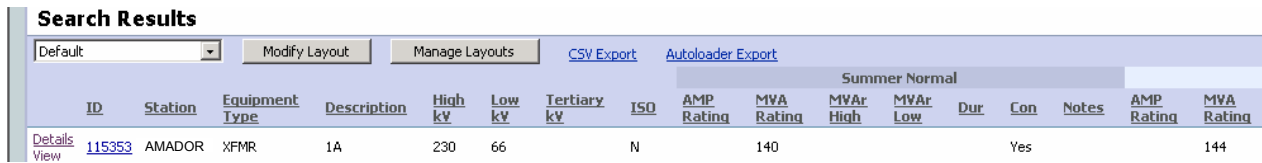

Figure 5. Search Results Screen
- **Click** the Run Search button and the screen in Figure 5 loads.
- **Press** the Run Search button and the screen shown in Figure 5 loads.